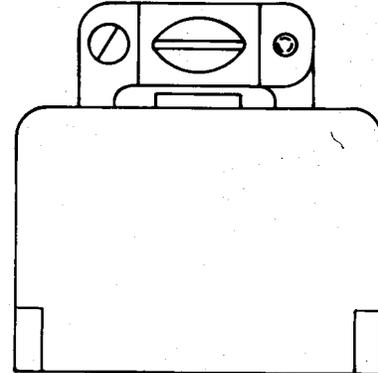

Fig. 1—KS-14528, L2 Connector
2.01 *KS-14528, L1 and L2:* The KS-14528, L1 and L2, connectors are primarily used on repeater oscillators in O Carrier Systems and with the coin control trunk test cords of the Step-by-Step Systems, respectively. These connectors consist of a molded, rectangular block of insulating material, equipped with 7 gold-plated, phosphor-bronze, floating terminals. The KS-14528, L2, connector (Fig. 1) is provided with a cover, a cable clamp, and a hood insulator. These connectors will mate with the KS-14527, L1 and L2, connectors.